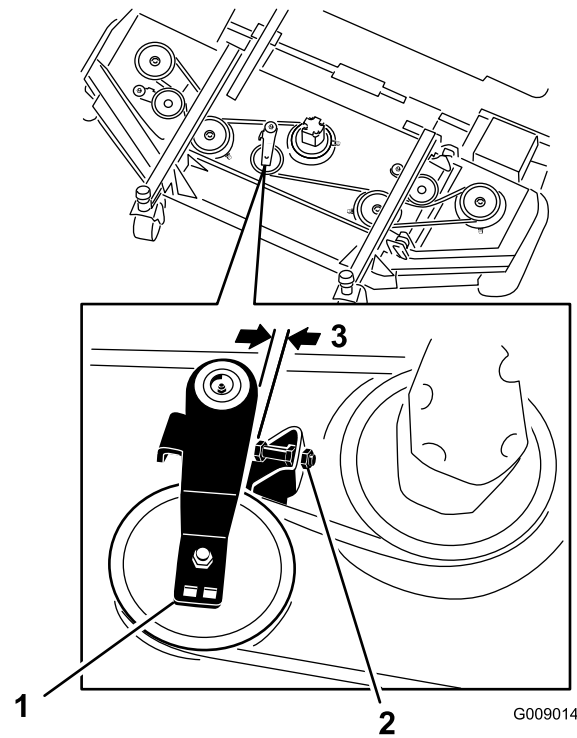

Figure 124
3. On the front deck, center position, loosen the jam nuts on the idler pulley stop screw and thread the stop screw into the bracket (Figure 124).